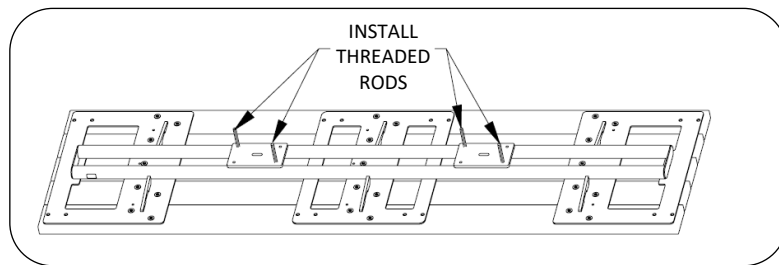

Fig. 1 – Threaded rod locations
1. Install threaded rods in bottom plates as shown in Fig. 1. Install 2 per plate, in opposite corners of plate.